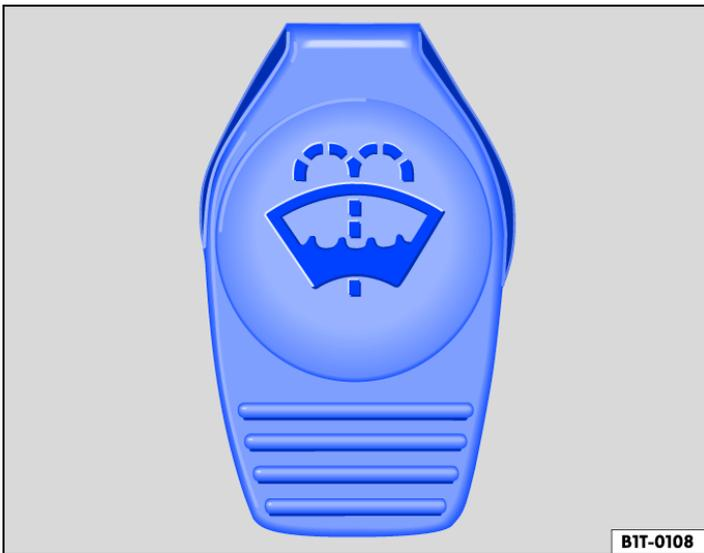

Fig. 1 In the engine compartment: cap of washer fluid reservoir.
- The washer fluid reservoir is identified by the  symbol on the cap *→ Fig. 1*.